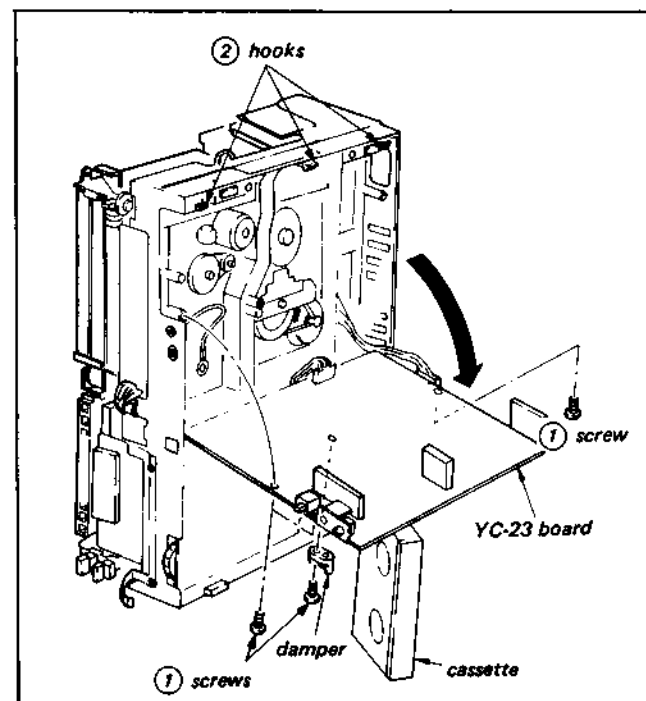

Fig. 1-4a. YC-23 board removal
4. YC-23 Board Removal (See Fig. 1-4a)